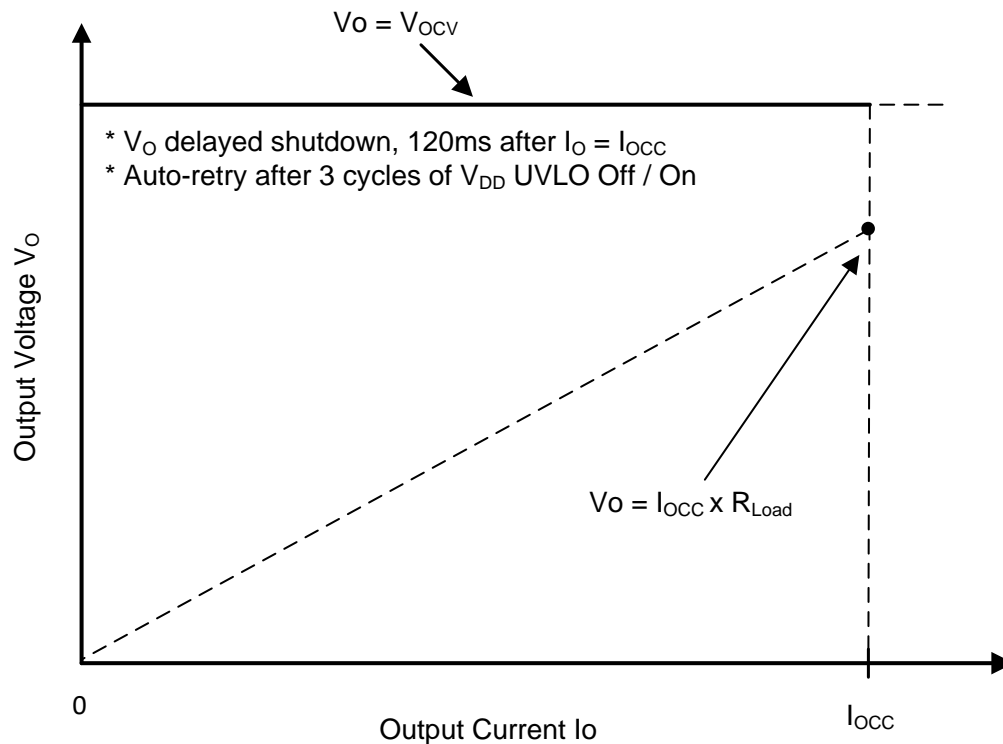
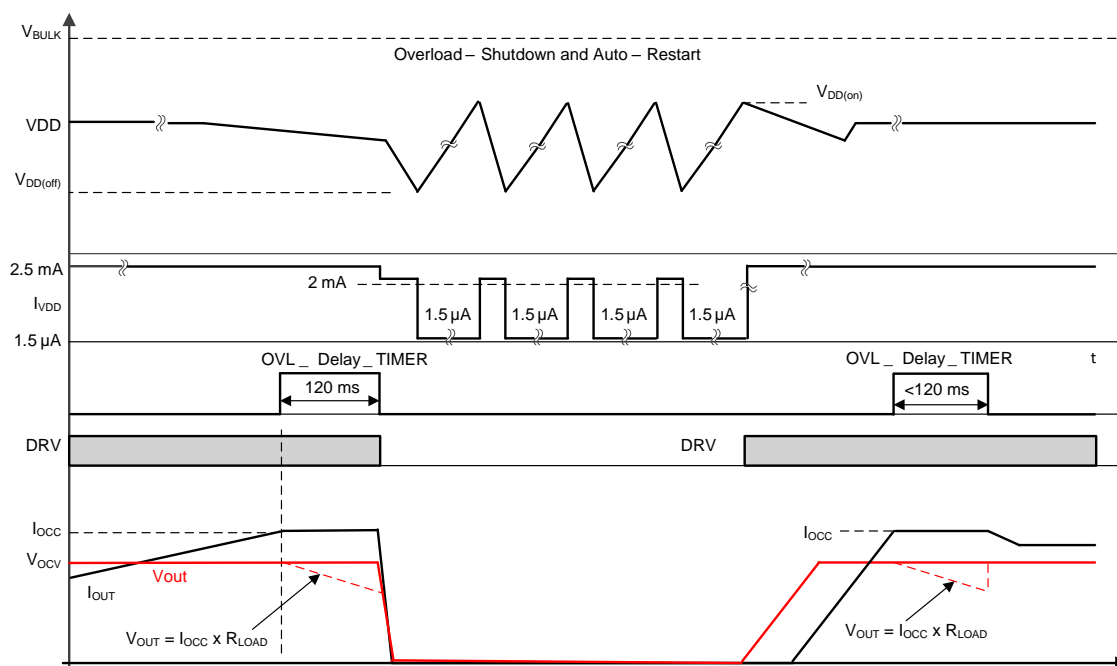

Figure 14. Typical Target Output V-I Characteristics
Figure 15. Output Delayed Shutdown Timing
As shown in Figure 14 below, CV mode operation is from $I_O = 0$ to $< I_{OCC}$; at $I_O = I_{OCC}$, the operation enters constant current limit mode and V_O starts to drop as the load resistance becomes further lower while I_O is maintained at I_{OCC} for a time interval specified by t_{OVL_TIME} typically 120 ms then DRV stops to achieve converter output delayed shutdown. During the 120-ms timing interval, if load I_O reduces to $< I_{OCC}$, the timer will be reset and no shutdown will occur. The V-I curve corresponding to the operation is shown in Figure 14, and the delayed shutdown timing diagram is shown in Figure 15. Note (1) The timer t_{OVL_TIME} is triggered whenever I_O reaches I_{OCC} and reset when I_O drops to $< I_{OCC}$ before 120ms-time-out. (2) during 120-ms time interval, when load resistance becomes so low during constant current interval that causes the device V_{DD} to reach its $V_{VDD(off)}$ and then the shutdown will be through V_{DD} undervoltage lockout instead of through Constant Current Limit and Delayed Shutdown. In such a case, the shutdown can happen before 120ms timer out.
The auxiliary winding to secondary winding transformer turns-ratio (N_{AS}) is determined by the lowest target operating output voltage V_{OVL} at current limit and above the $V_{DD(off)}$ of the UCC28742. The output voltage reaches V_{OVL} when output current reaches its limit I_{OCC} ; V_{OVL} is determined by I_{OCC} and the expected minimum load resistance R_{LOAD} at I_{OCC} , i.e., $V_{OVL} = I_{OCC} \times R_{LOAD}$. Note that V_{OVL} can only be maintained within typical 120ms, and after that time, the output voltage will enter the cycle of shutdown and auto-start retry, as described in Constant Current Limit and Delayed Shutdown, and shown in Figure 14 and Figure 15. There is additional energy supplied to VDD from the transformer leakage inductance energy which may allow a slightly lower turns-ratio to be used in a design. The N_{AS} is then determined by the below equation.